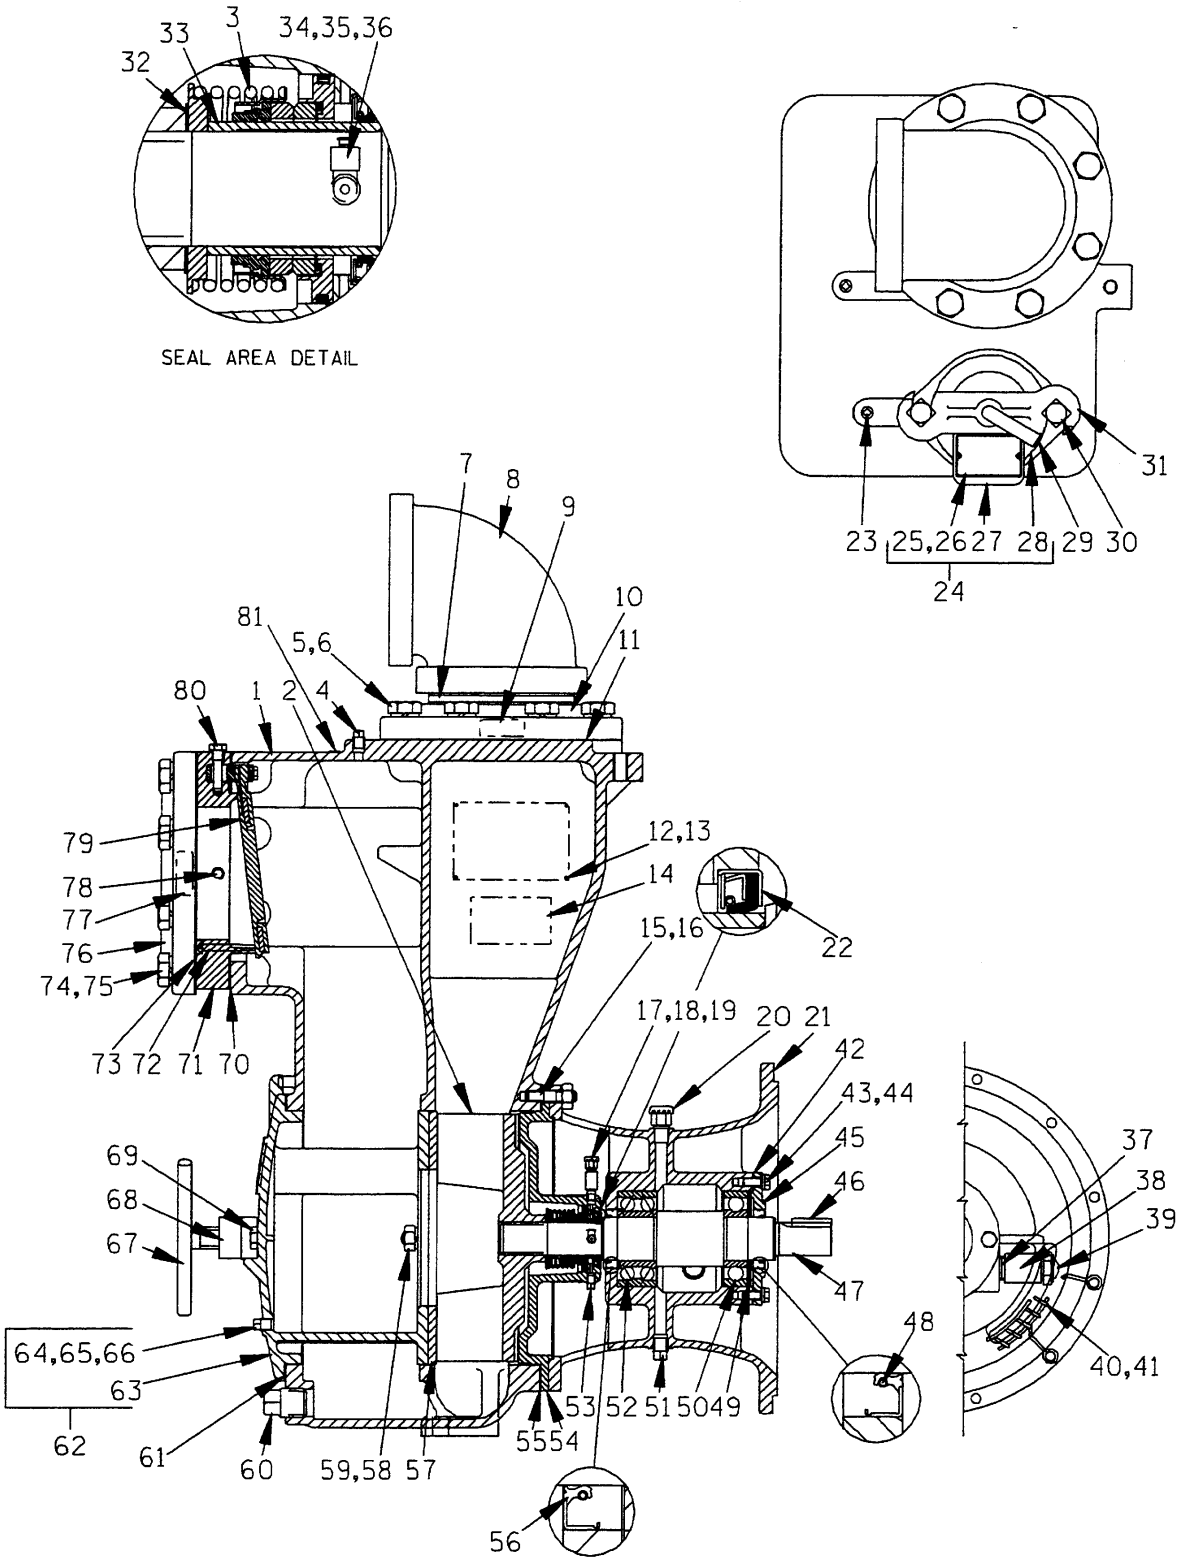

Figure 2. 16C20-(SAE 4/10) Pump End Assembly
(Figure 2)
If it is necessary to separate the intermediate and drive assemblies from the engine, support the intermediate using a hoist and sling, and remove the hardware (6 and 7) securing the intermediate to the engine bellhousing. Remove the intermediate guards (40 and 41, Figure 2), and separate the assemblies by pulling the intermediate straight away from the engine.
As the assemblies separate, the flexible portion of the coupling assembly (3) will remain on the shaft. To remove the coupling from the shaft, unscrew the two allen head setscrews from the bushing (2). Screw one of the setscrews into the puller hole on the circumference of the bushing. As the coupling and bushing separate, remove the bushing, and slide the coupling off the shaft. Remove the shaft key (46, Figure 2).
Shaft and Bearing Removal and Disassembly (Figure 2)